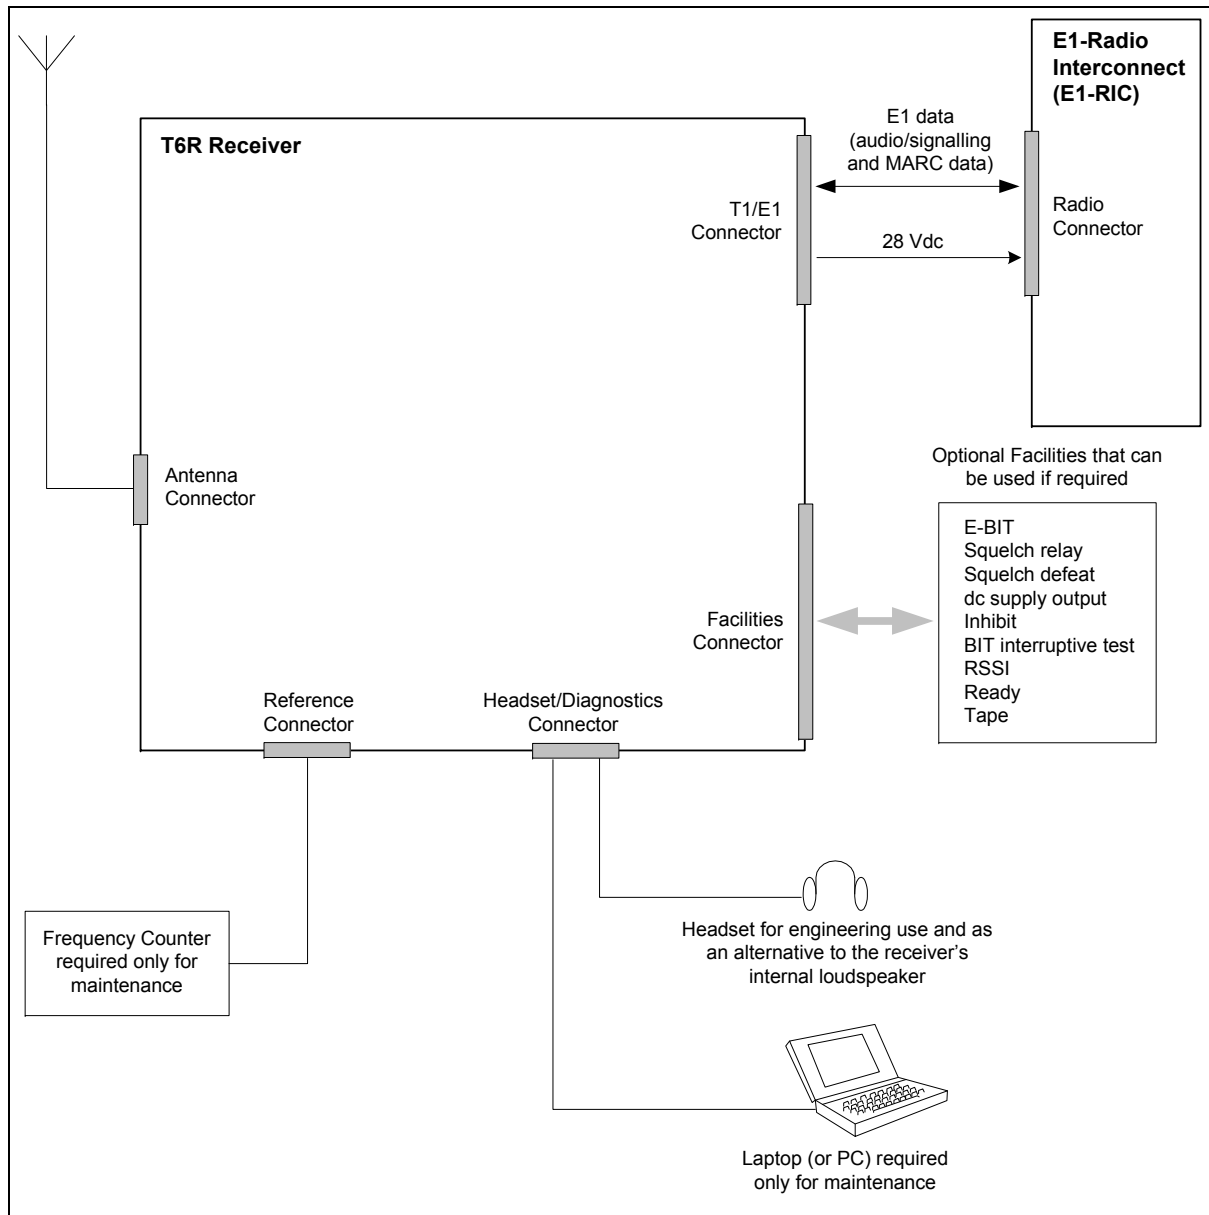

Fig 4-4 Receiver Configured for use with an E1-RIC
- ❑ Receiver configured for use with an E1-RIC (see Fig 4-4)